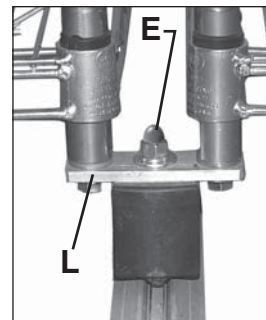
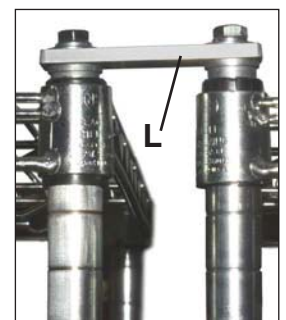

figure 3
figure 3a
Place center tie bar(L) on top of the skate. Align skates(A) top holes with the middle hole in the center tie bar. See "for End Posts" sequence above. Use two $\frac{3}{8}$ " flat washers(B) with lock washers(C) and a $\frac{3}{8}$ "-16x1 $\frac{1}{4}$ " bolt(D_{1,25}) and acorn nut(E) to attach center tie bar(L) as shown in *figure 3*. Use a flat head screw driver to start assembly. Repeat on opposite side. Attach wire shelving units to sides of center tie bar on skate (see "Double-Deep Unit" on back page). Use a $\frac{3}{8}$ " flat washer(B) with lock washer(C) and $\frac{3}{8}$ "-16x2 bolt(D₂) to screw through center tie bar and into the bottom of the post as show in *figure 3*. Tighten bolts with a ratchet, small extension and $\frac{3}{8}$ " socket as shown in *figure 2*. Place center tie bar on top of posts and secure using a $\frac{3}{8}$ " flat washer(B) with lock washer(C) and $\frac{3}{8}$ "-16x2 bolt(D₂) as shown in *figure 3a*.